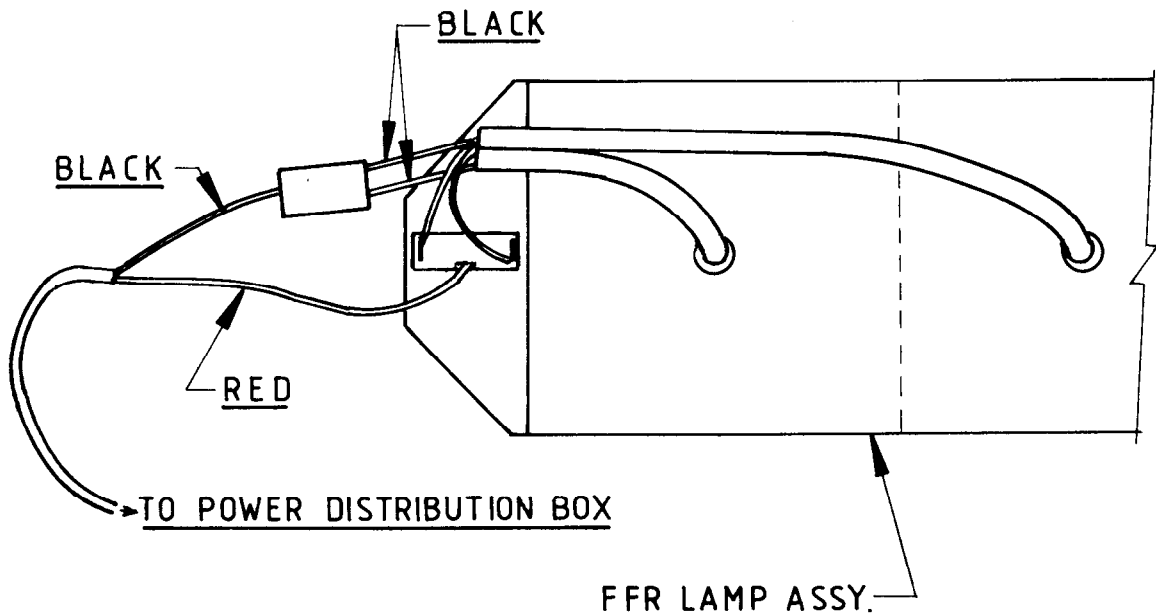

FIG 2 - FFR LAMP
- (1) Disconnect the radio batteries.
- (2) Identify the red wire to the FFR lamp, as shown in Fig 2, cut the wire and fit the fuse holder and crimp terminals (item 6 from Table 1) to the wire.